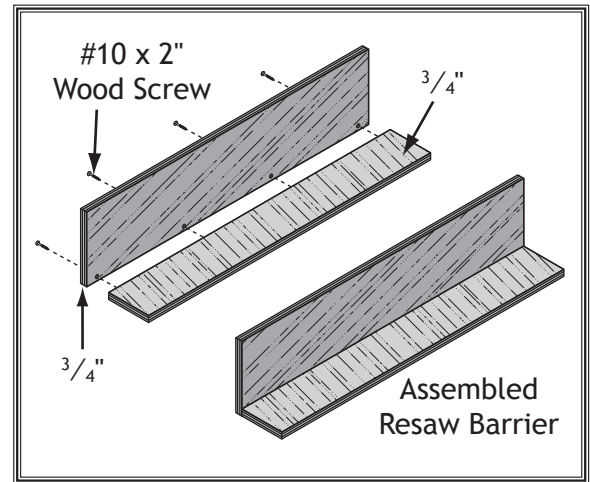

Figure 92. Shop-made resaw barrier.
3. Glue the end of the 3" board, then clamp the boards at a 90° angle with the larger board in the vertical position, as shown in **Figure 92**, and fasten them together with the wood screws.